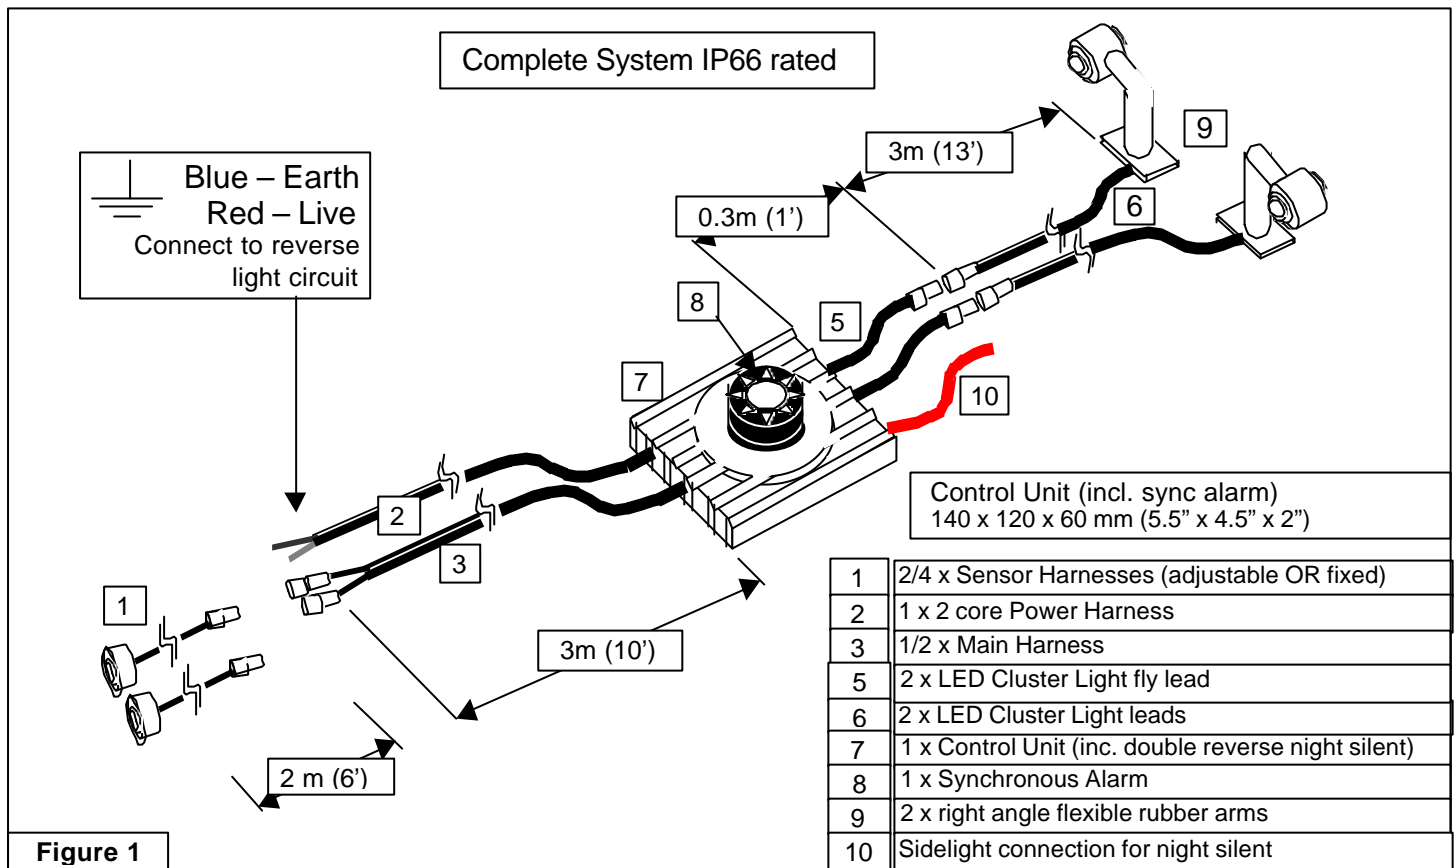

Figure 1
- Connect the other cable harnesses into BackMinder as shown in Figure 1 taking care to ensure the connectors mate correctly.